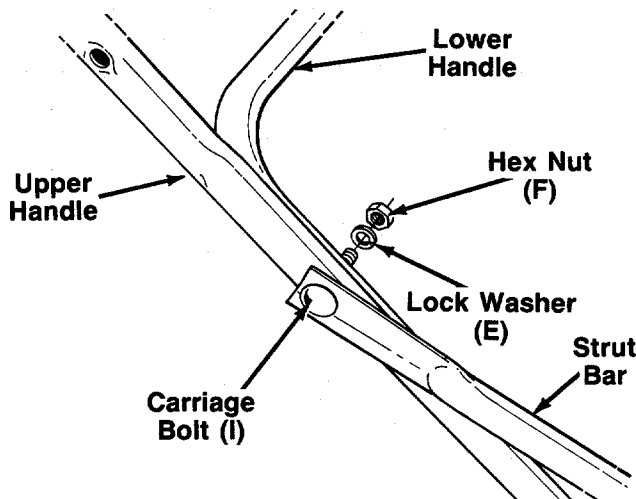

FIGURE 5.
8. Place the upper handle in position over lower handle. The control housing must be on the left hand side of the handle. Secure the strut bars, upper handle and lower handle using carriage bolts (I), lock washers (E) and hex nuts (F). See figure 5. Do not tighten.